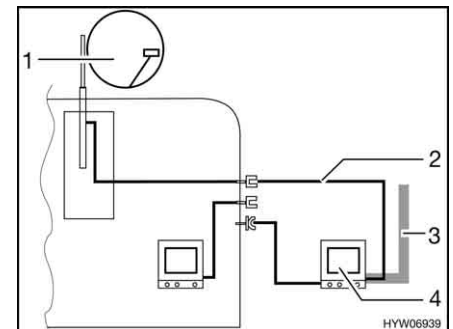

Fig. 155 TV in the awning
- TV inside the awning (Fig. 155,4): Connection to roof antenna (Fig. 155,1) with connection cable (Fig. 155,2)
- TV inside the awning (Fig. 155,4): Connection to external antenna (Fig. 155,3)